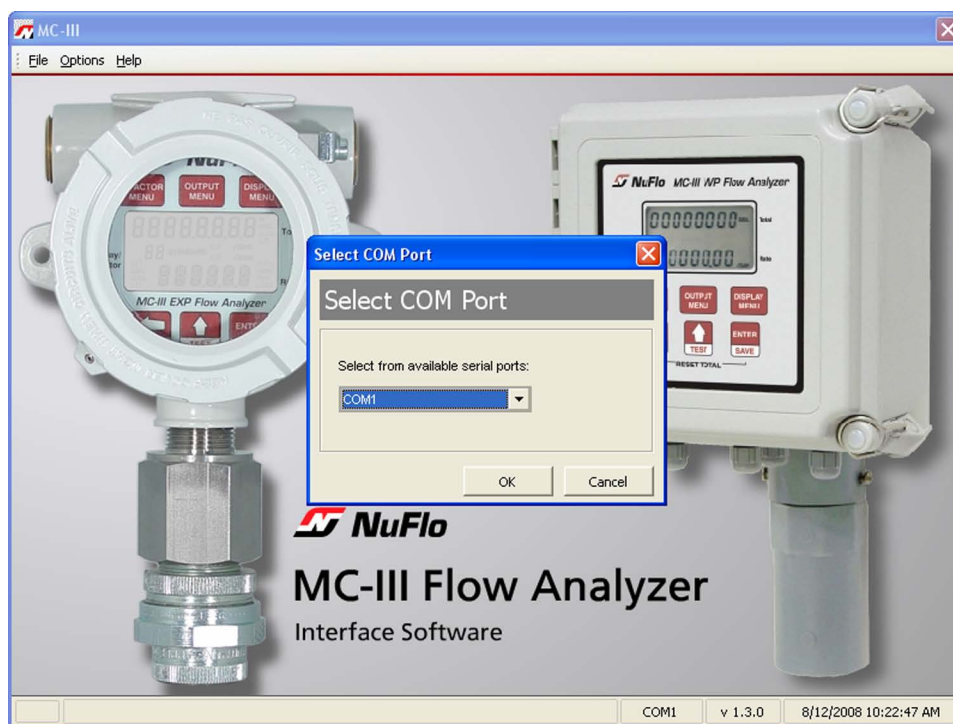

Figure 4.2—Select COM Port window
The Help menu, accessible from the task bar at the top of the Welcome screen (Figure 4.2, page 40), provides access to documentation designed to assist the user in installing, configuring, and operating the MC-III WP flow analyzer. This documentation includes:
1. Click on the NuFlo MC-III icon on the desktop, or select Start>Programs>NuFlo>MC-III>MC-III. The Welcome screen (Figure 4.2) will appear and a Select COM Port window will prompt the user to select a communications port be used for connecting with the MC-III WP (Figure 4.2).